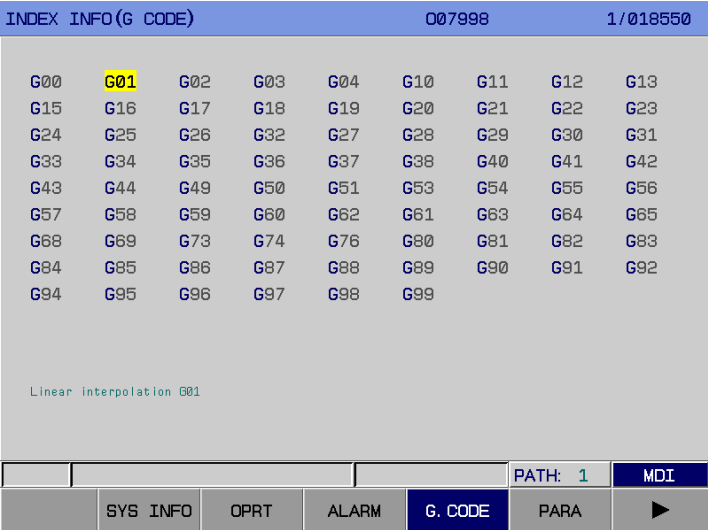

Fig. 3-9-4
4. G code page In <HELP> page, press soft key 【G. CODE】 to enter this page. See fig. 3-9-4:
The definitions of G codes used in system are shown in G code page. Move the cursor to the G code to be viewed, then its definition is shown at the lower left corner of the page (fig. 3-9-4). If you